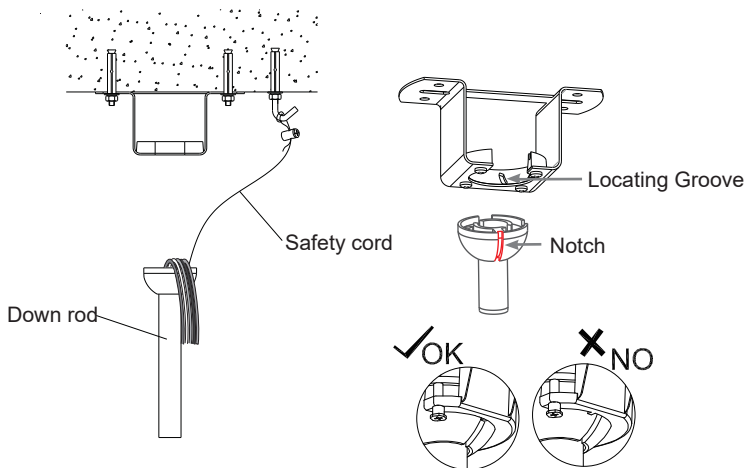

Fig.6
- Lift the fan motor housing on the mounting bracket, ensure the ball joint locating the groove aligns with the notch on the mounting bracket.(Fig.6)
- Twine the safety cord around the expansion bolt,insert the safety cord to the wire-lock, tighten the screw to lock safety.(Fig.6)